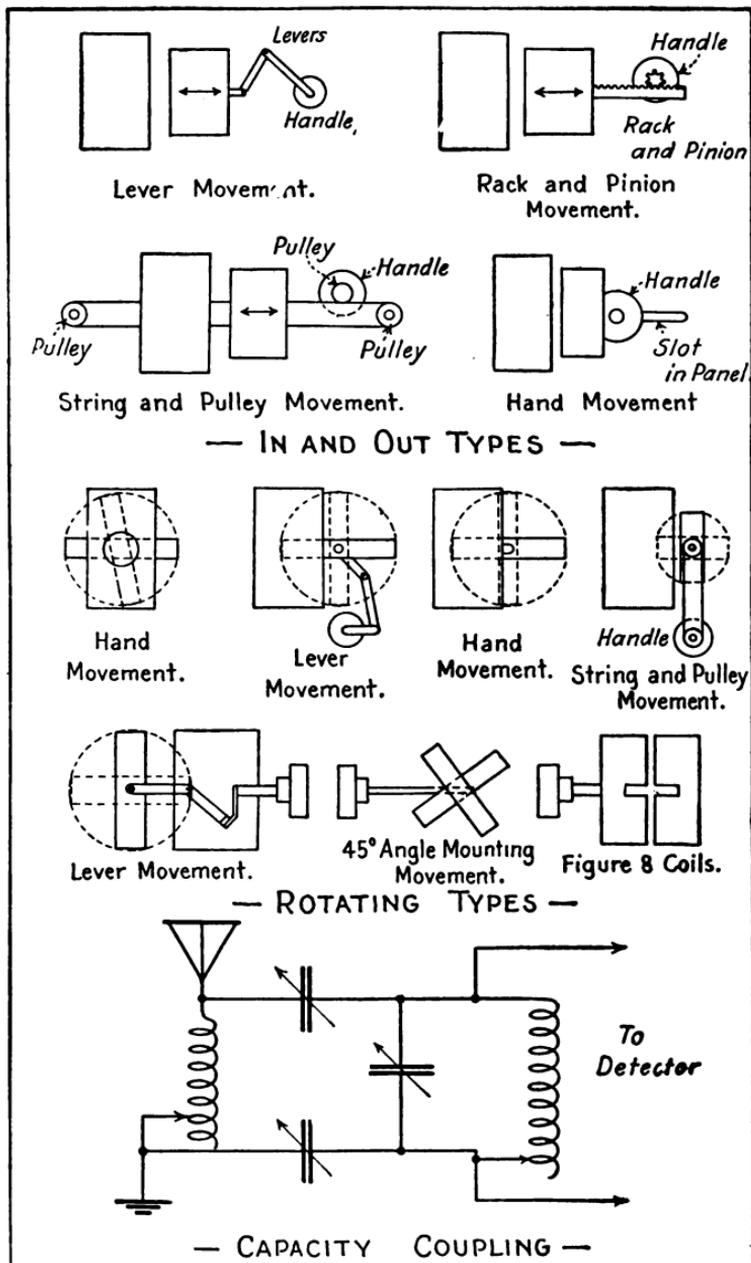

Fig. 8.—Various Ways in which the Coupling between Two Coils can be Varied.
Various methods of effecting the movement are given in Fig. 8.
**B. Rotating Types.** A number of ways to vary inductance by rotating one coil are given in Fig. 8. The coils can be wound on cylindrical or spherical forms. They can be separated considerably at maximum coupling, for very tight coupling is not essential. The coefficient of coupling need not exceed 5%.
**A. Variation of mutual inductance.** Any of the methods in Fig. 8, except the capacity coupling, can be employed by connecting the coils in series or parallel. Resulting effective inductance is given by the formulas in Section 5. It is necessary to have the coils as close together as possible in order to obtain a large variation. When the planes of the windings are at right angles, the mutual inductance is  $O$ .